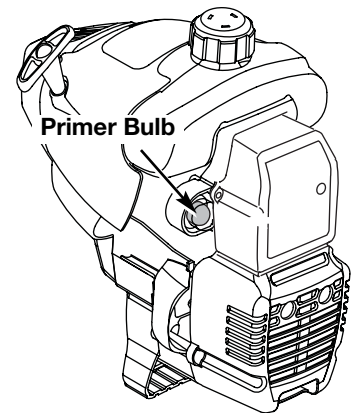

Fig. 4
3. Fully press and release the primer bulb 10 times, slowly. Some amount of fuel should be visible in the primer bulb and fuel lines (Fig. 4). If you can't see fuel in the bulb, press and release the bulb as many times as it takes until you can see fuel in it.